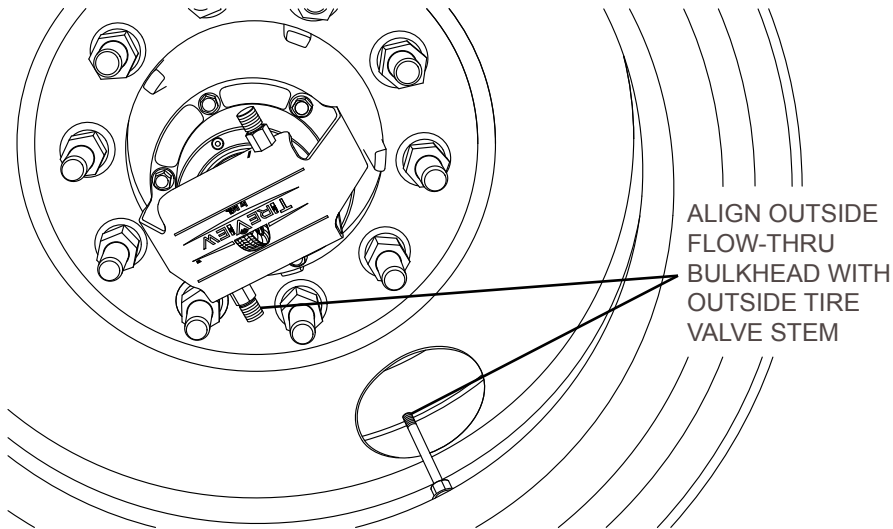

Figure 26: Outside Flow-thru Bulkhead Alignment with Valve Stem
1. Position the flow-thru bracket assembly next to the axle cap and align the flow-thru bulkhead labeled **OUTSIDE (O)** with the valve stem of the outside tire. See *Figure 26*.